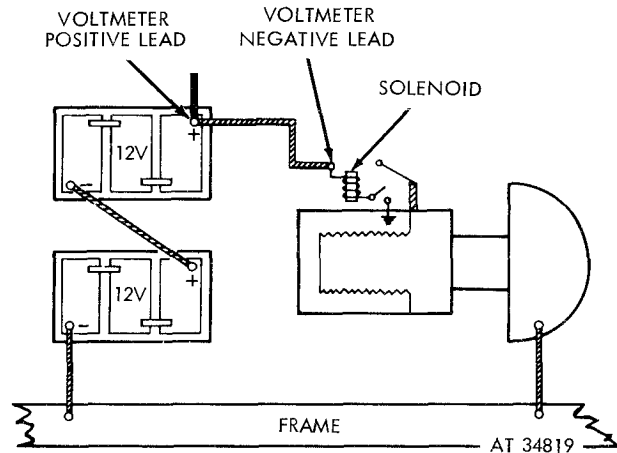

Figure 2-31. Battery-to-solenoid cable test.
d. Battery-to-Solenoid Cable Test (Fig. 2-31).
(1) Leave the voltmeter leads connected to the tester.
(2) Connect the positive (+) voltmeter lead to the positive post of the ungrounded battery.
(3) Connect the negative (-) voltmeter lead to the starter solenoid relay terminal.
(4) Place the voltage selector switch in the 50-volt position, close the starter switch with the ignition switch in the OFF position and read the voltmeter.
(5) If the voltage reading is less than 20 volts, change the selector switch to the 20-volt position and repeat (4) above.
(6) If the reading is less than 10 volts, change the selector switch to the 10-volt position and repeat (4) above.
(7) If the reading is less than 1 volt, change the selector switch to the 1-volt position. Repeat the procedure and read the voltmeter.
(8) The maximum allowable voltage loss is 0.2 volt.
(9) After the check is completed, turn the voltage selector switch to the OFF position, and remove the voltmeter leads from the battery to the solenoid cable.